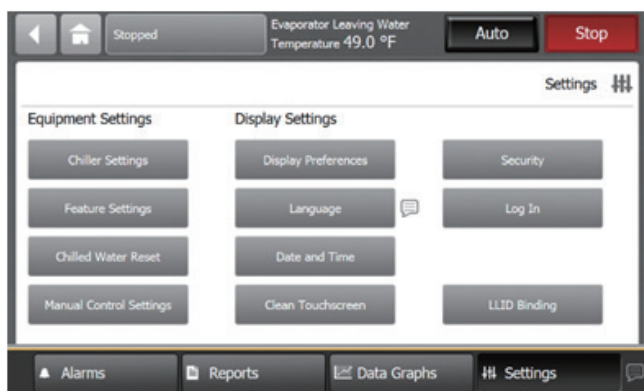

Figure 51. Security settings screen
1. From the Settings screen, touch the Security button. The Security screen appears (Figure 51).